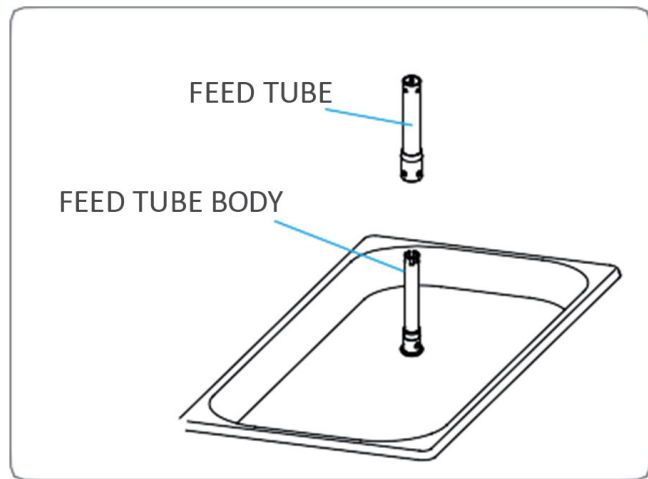

Figure 5-16
10. With sanitized hands, replace the feed tube into the mix hopper. (Figure 5-16.)